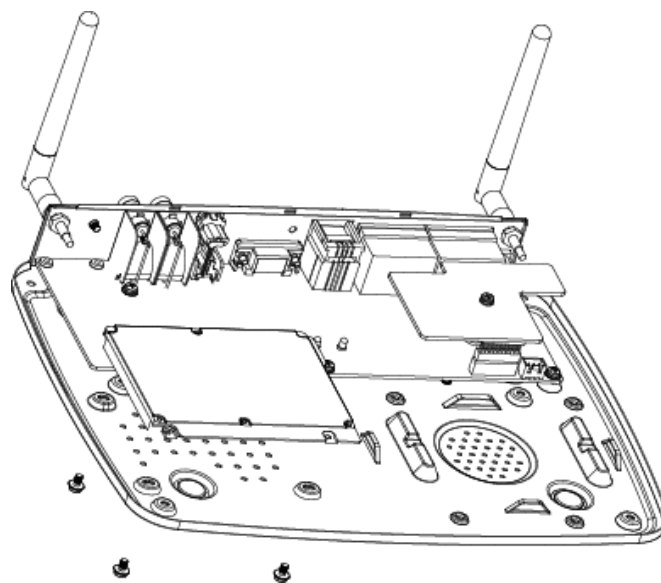

Figure 2-4
Step 2. Insert HDD port on motherboard, see Figure 2-4.